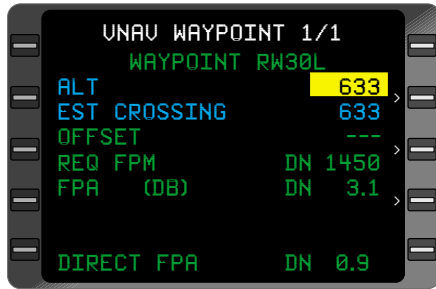

Figure 3-126
- ENTER Key** - DEPRESS. The **VNAV WAYPOINT** Page appears with the cursor over the **ALT** field. (Figure 3-126)
*NOTE: If the FPA was retrieved from the database, (DB) appears in the FPA type field. (Figure 3-126)*